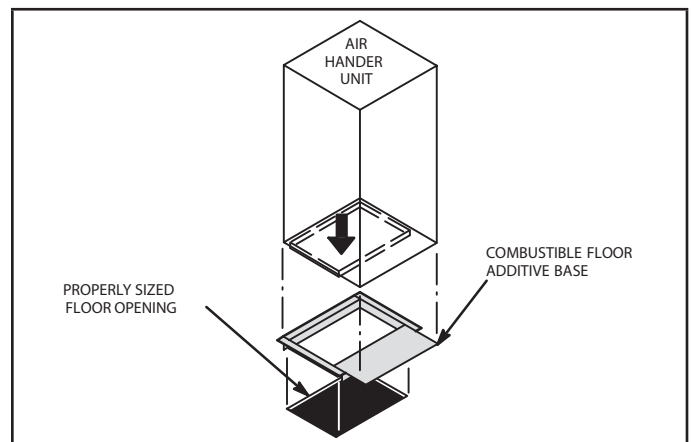

FIGURE 9. Downflow Combustible Flooring Base
- 8 - For downflow installation on combustible flooring, an additive base must be used as illustrated in figure 9. See CBA38MV Engineering Handbook for downflow combustible flooring base kits available for this air handler.